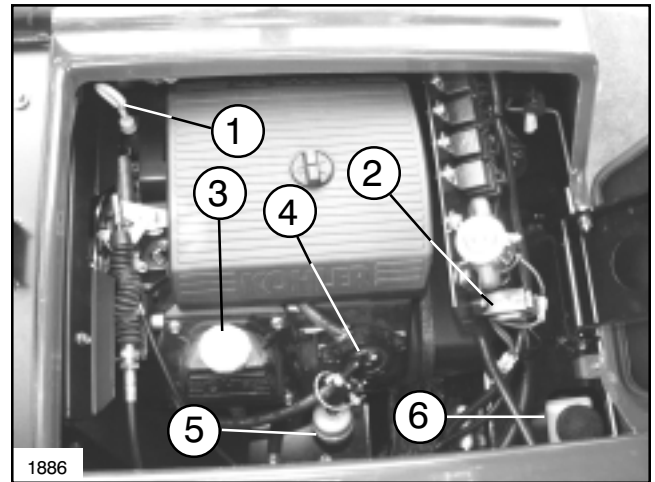

FIG. 20
1. Lift Operator's Seat to gain access to the In-Line Fuel Filter (See FIG. 20).